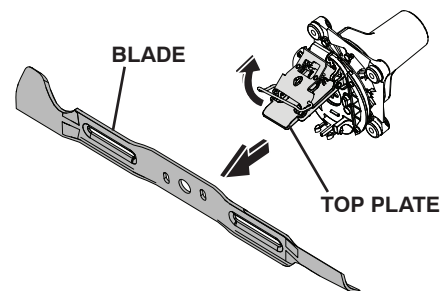

Fig. 37
- Open the top plate and remove blade. (See Fig. 37)